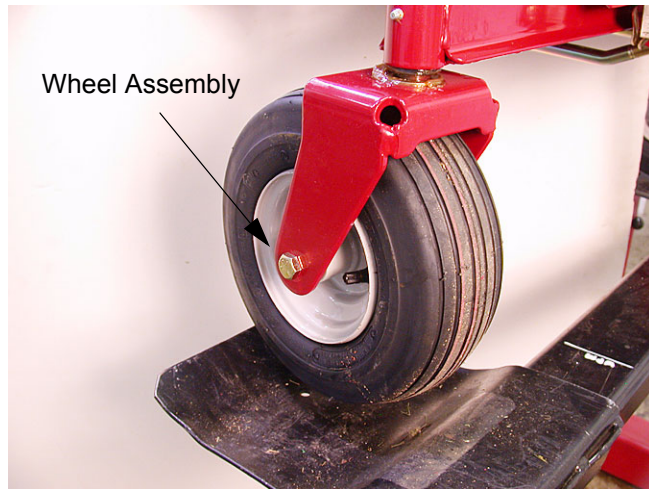

Figure 11.3
- 11.3. Using two 3/4" wrenches remove wheel assembly from caster bracket. See Figure 11.3.